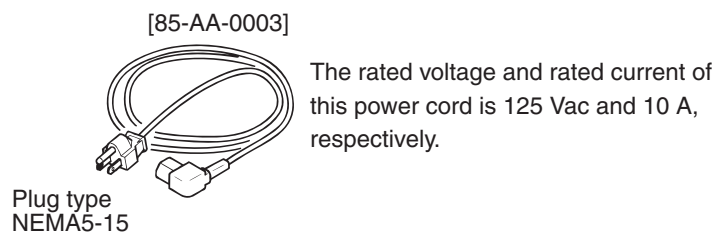

Fig. 2-16 Power cord with a three-prong plug
- The rated voltage of the power cord with a three-prong plug that comes with the KFM2150 system (Fig. 2-16) is 125 Vac. If you are using the KFM2150 system on an input power supply of a 200 Vac system, exchange the power cord with one that is suitable for the input voltage.